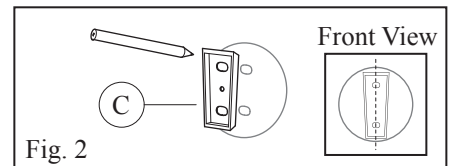
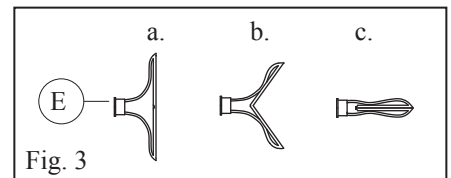

Fig. 2
Fig. 3
2. Position a mounting bracket (C) in the center of outlined back plate. Use a pencil to mark positioning of the screw holes. (Fig. 2)
3. Drill 5/16 in. pilot holes into the wall where the drywall anchors (E) will be inserted.
4. Pinch drywall anchors (E) two wings together (Fig. 3), and insert it into the hole horizontally. Tap flush with the wall using a hammer.